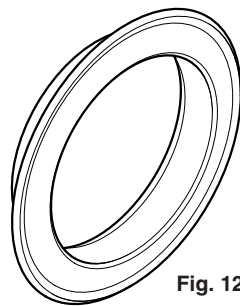

Fig. 12
3. Locate the trim over the flue terminal and push it back to the wall to compress the seal (Fig. 12).